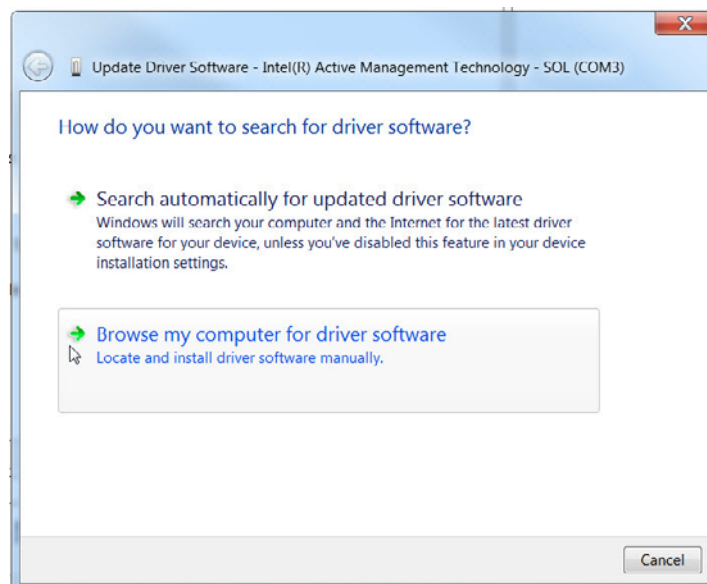

Figure A-2 • Update Driver Software from driver software located locally on PC
8. Select Browse my computer for driver software (Figure A-2).